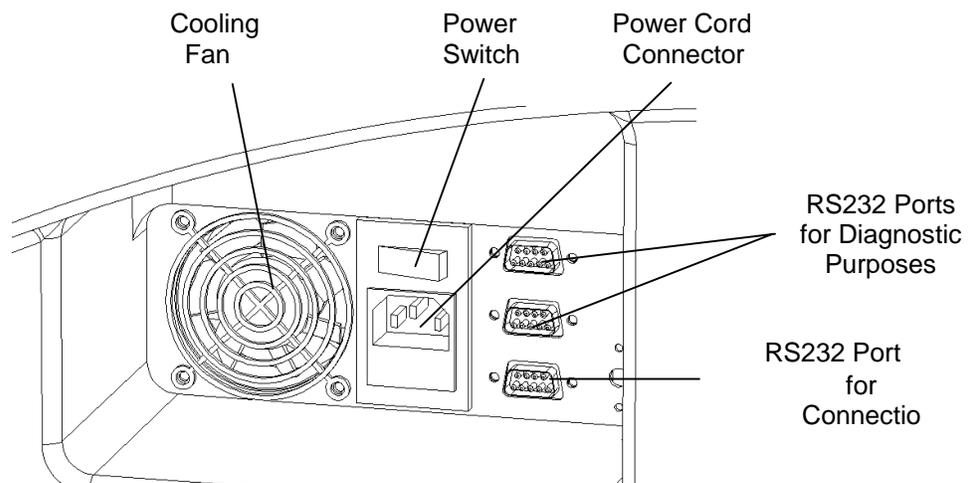

Figure 19. View of the Right Side of the DSX™ Automated ELISA System
3. Plug the other end of the RS232 communication cable into the bottom RS232 port at the right side of the instrument (Figure 19).
**Note:** The lowest of the 3 RS232 ports must be used. The other RS232 ports are used for diagnostic purposes. See Figure 19.
1. Connect the power cord to the connector at the right side of the instrument (Figure 19).
1. Turn the DSX System power switch (Figure 19) ON.